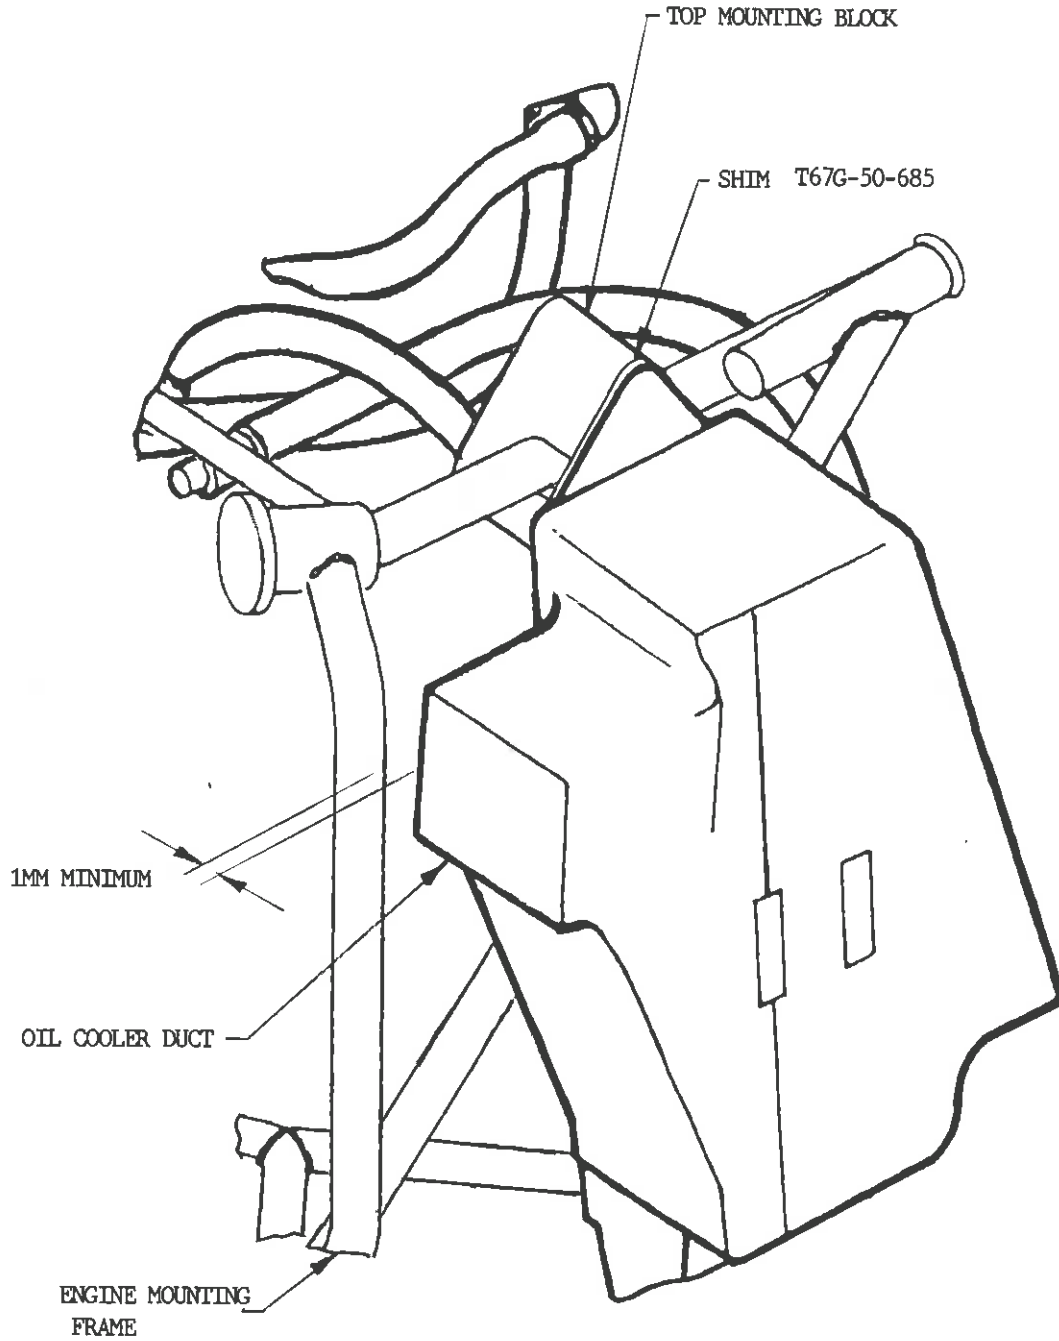

FIG 1
2. Check for scrubbed paint on engine mounting frame ref. Fig. 1.
4. If mounting frame is worn or clearance less than 1mm, fit shim T67G-50-685 where indicated by Fig. 1.